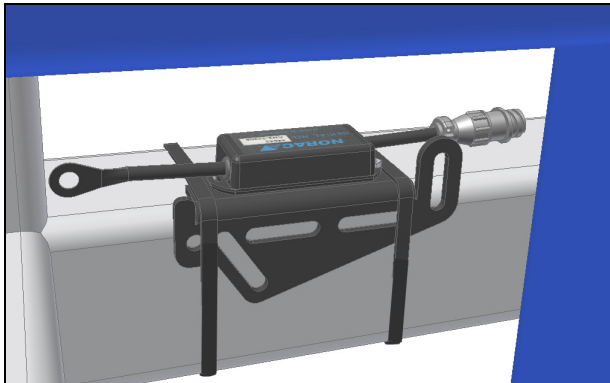

Figure 17 – Chassis Roll Sensor Mounting
1. It is often best to cable tie the chassis roll sensor in place. When mounting the chassis roll sensor follow the guidelines and refer to **Figure 17**.